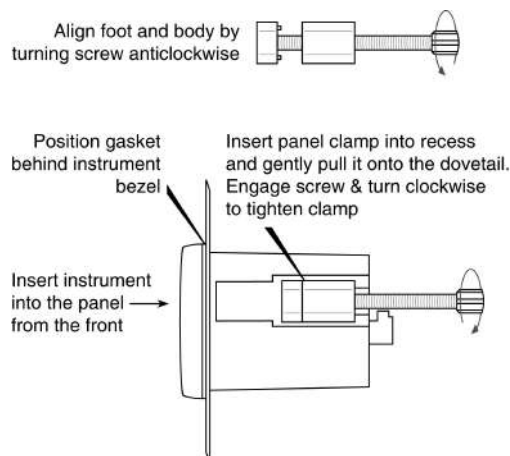

Fig 10 Fitting panel mounting clamps
- Place a clamp in the recess on each side of the instrument, pulling gently to slide it onto the dovetail as shown in Fig 10. Push the knurled screw slightly forward to engage the thread and tighten by turning clockwise until it is just finger tight. When the clamps are fitted ensure that the gasket behind the front panel bezel is correctly positioned before fully tightening the clamps to secure the instrument. The maximum recommended clamp tightening torque is 22cNm (1.95 lbf in) which is approximately equivalent to finger-tight plus one half turn. **Do not over tighten.**